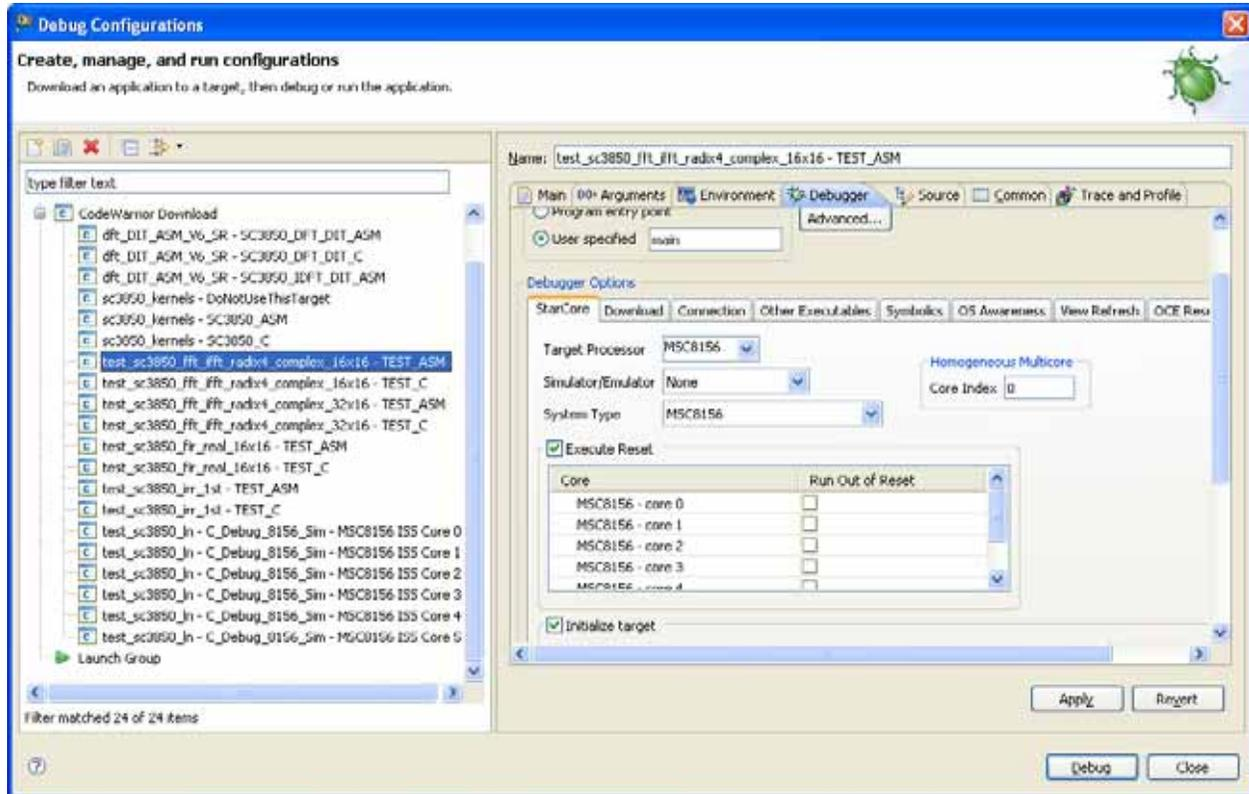

Figure 11. Debug configuration on MSC8156 ADS board
- Click the Debugger tab. The Debugger page appears in the right pane. Change the settings on this page as per your requirements. For example, select the required target processor and simulator/emulator. The default setting is shown in Figure 11, and the configurations are set to run on MSC8156 ADS board.